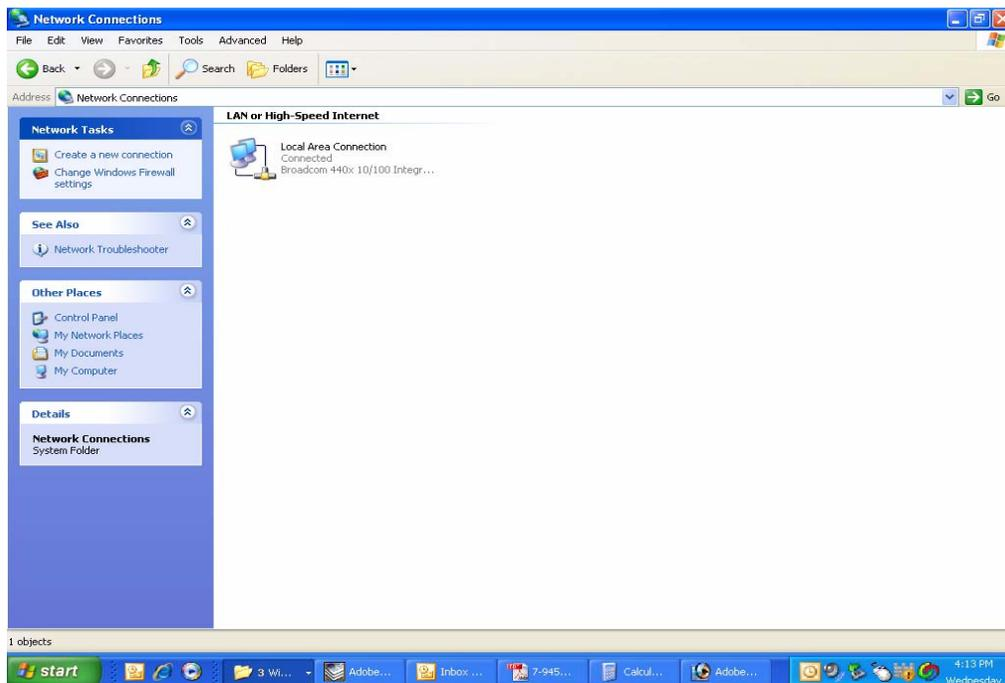

Figure B3: Select the "Local Area Connection" icon.
- 4) When the “Network Connections” folder opens double click on the “Local Area Connection” icon. See **Figure B3**.